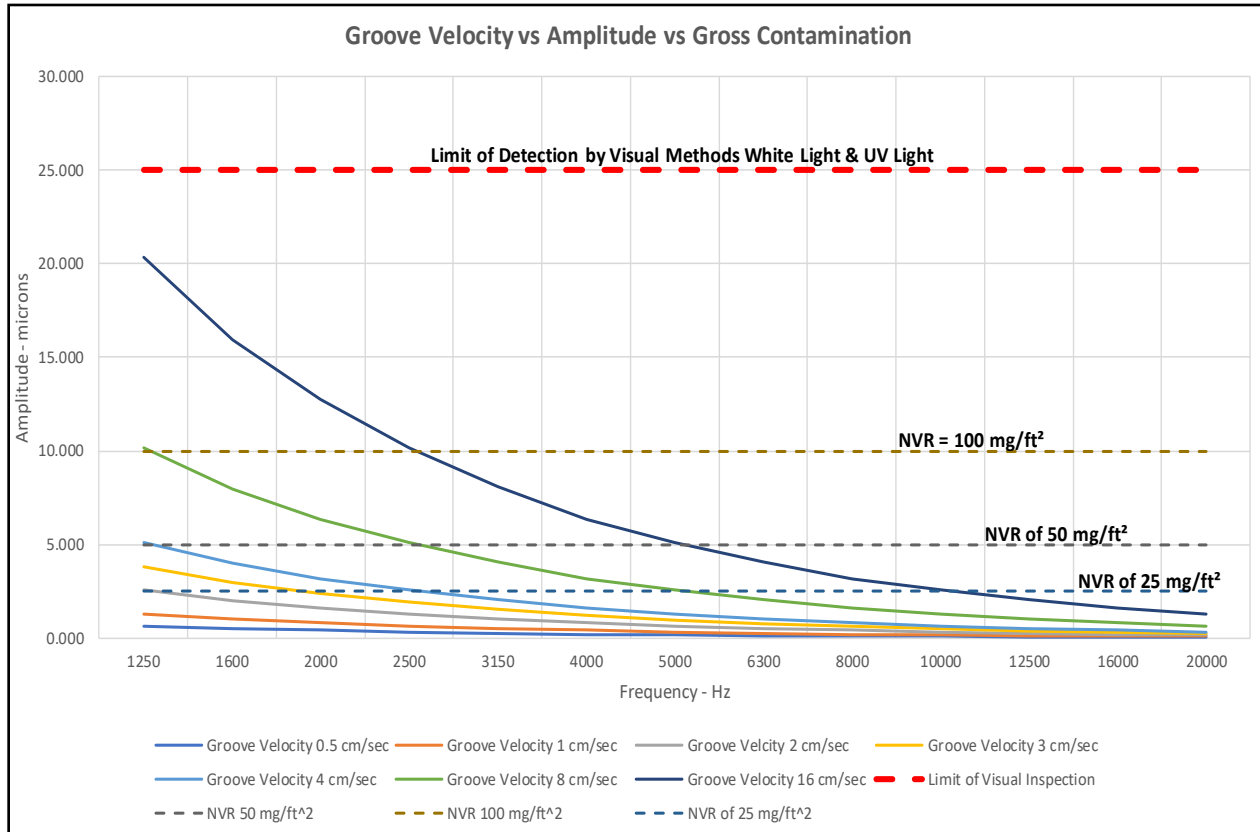

Figure 46 – Groove Velocity vs Amplitude vs Gross Contamination
XI.5 **Figure 46** graphs **Table XVII** (except 0.1 cm/sec) and adds 8-cm/sec (18 dB) and 16 cm/sec (24 dB) groove velocity. It shows while anything below 25 microns will not be visible, gross contamination of 50 and 100 mg/ft² that develops a 5.0-to-10-micron film thickness is enough to fill-in most of the high frequency (>1000 Hz) side wall ridges (amplitude) and partially fill the groove. The 5.0 to 10 microns film thickness is an extreme amount of NVR that may be associated with an “exceptionally dirty” record. Smaller film thicknesses especially if associated with hard mineral residue from tap-water is unlikely to be uniform so should be audible as transient noise (clicks, pops, etc.,) and can cause accelerated wear of the record and the stylus. Softer residue such as surfactants can be uniform and can be displaced into the side wall ridges and effect or reduce the recorded surface amplitude which is alluded to in the paper *Record Contamination: Causes and Cure by Percy Wilson, 1965 (61)* when it discusses in generalities loss of high-notes by some contaminants that can also foul the stylus.